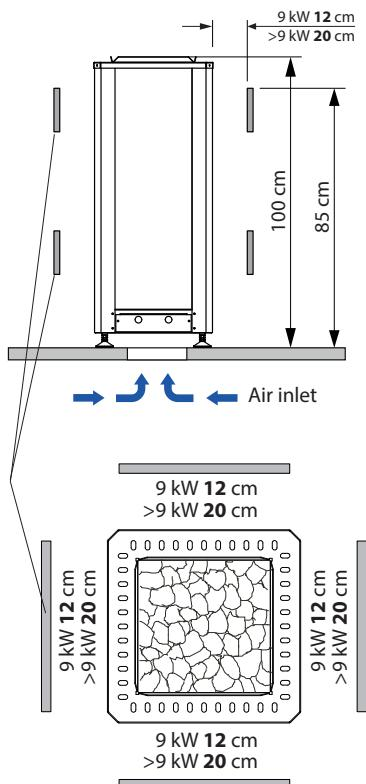

Fig. 1
When installing the sauna heater, make sure that the vertical clearance between the upper edge of the sauna heater and the sauna ceiling is at least 110 cm and the horizontal (side) clearance between the heater and cabin wall or other flammable material is at least 20 cm (9 kW - 12 cm) as shown on fig. 1.
- Provide a fresh air supply in the bottom area of the heater. The minimal size of the opening should be  $300 \text{ cm}^2$ . If an air supply opening in the sauna wall is not possible an air channel should be installed under the floor surface as shown on Fig 1. **The operation of the sauna heater without proper fresh air supply can cause overheating and lead to the damages.**